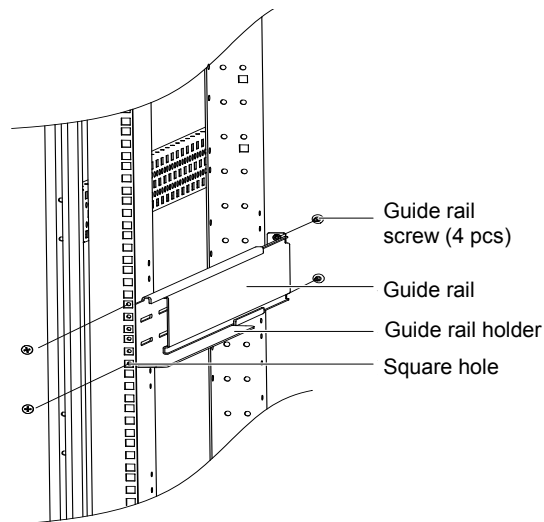

Figure 2-5 Installation of guide rail
3) Align the installation holes of the guide rail with the square holes of the rack, fix the guide rail onto the rack with eight guide rail screws. Each left guide rail and right guide rail needs four guide rail screws respectively, as shown in Figure 2-5.